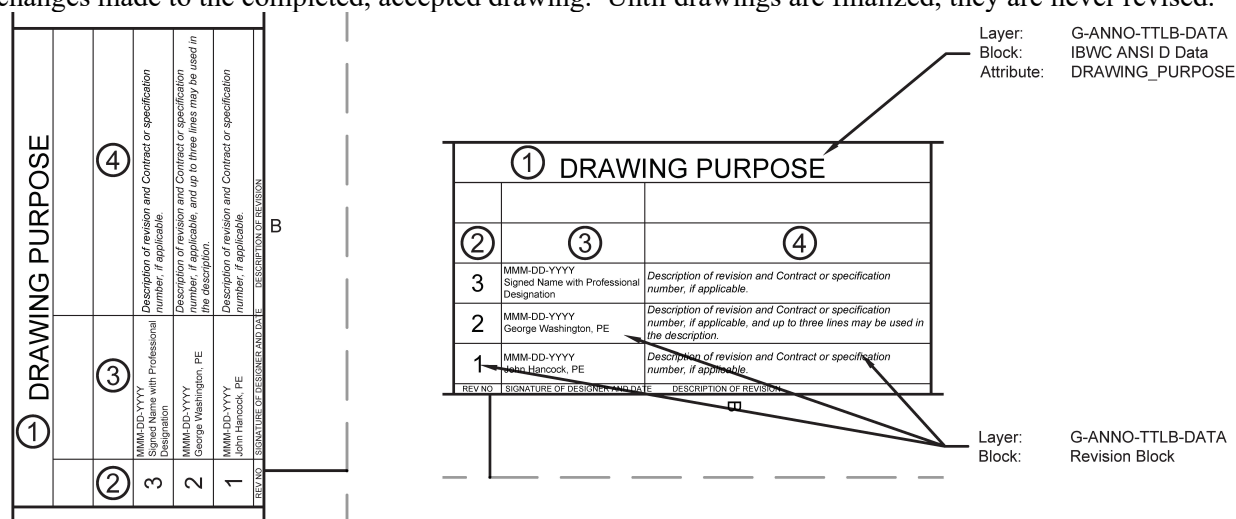

Figure 24-USIBWC Border: Drawing Purpose & Revision Block
4.4. DRAWING PURPOSE AND REVISION BLOCK (FIGURE 24)
4.4.A. Figure 24, Item 1 - Drawing Purpose (1 line only)
- (1) Informational drawings are usually figures in reports but they may also present data collected for record.
- (2) Drawings produced during feasibility studies are informational drawings.
- (3) Figures within reports should be made into drawings when they contain project data that is applicable to stand alone outside of the report they are in. Examples include geologic mapping, borehole data, drainage basins, or surveys.
4.4.B. Figure 24, Items 2, 3, and 4 - Revision Block
1. A template for this data is provided in the block entitled Revision Block. The text shown for Items 2, 3, and 4 in Figure 24 represents the Revision Block. Insert block at $x = 0$ $y = 0$.
4. Figure 24, Items 2 - Area for Revision Number
5. Figure 24, Item 3 - Area for Designer's Name and Revision Date
6. Figure 24, Item 4 - Area for Revision Description